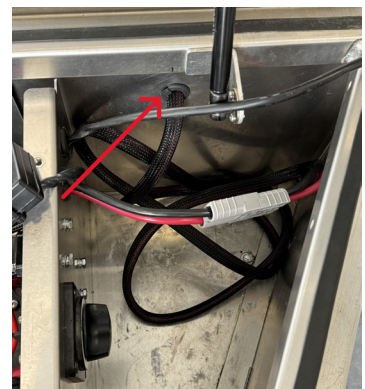

Figure 11. Hole through back wall
Step 10. Drill another 7/8" (.875") hole through the back side of the toolbox. Be careful, the hole will have **SHARP EDGES**. Next place a grommet in hole. See figure 11. Also see figure 15 on last page.